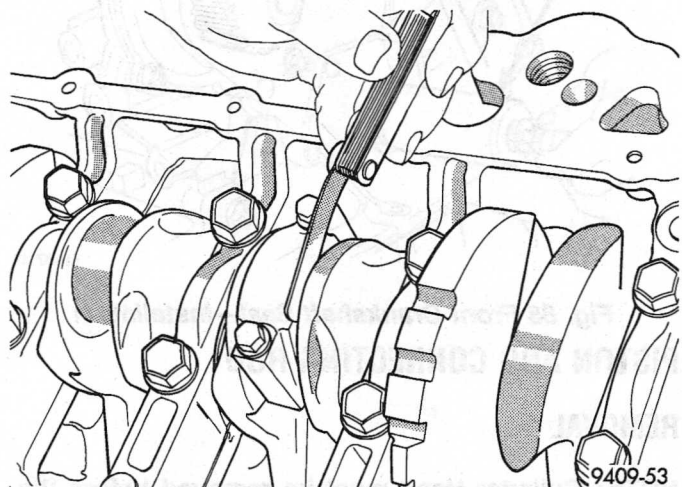

Fig. 94 Checking Connecting Rod Side Clearance
(9) Tighten the bolts to 27 N'm PLUS 1/4 turn (20 ft. lbs. PLUS 1/4 turn).
(10) Using a feeler gauge, check connecting rod side clearance (Fig. 94).